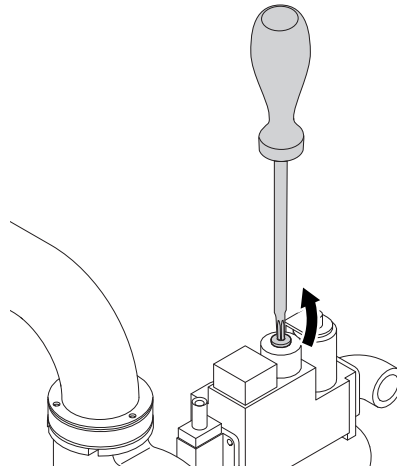

Fig. 11.h
- adjust the screw (A - Fig. 11.c) and check that the CO and CO2 values correspond to those in the emissions table;